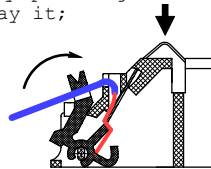

Figure 3
- insert the wire into the channel and fix it forcing the press-button up to the stop (see Figure 3);
- check the reliability of connection by pressing the contact bend, imitating the press by detector ( see Figure 3) and lay it;
- bring the wire into the slot, located at press-button (Figure 3).